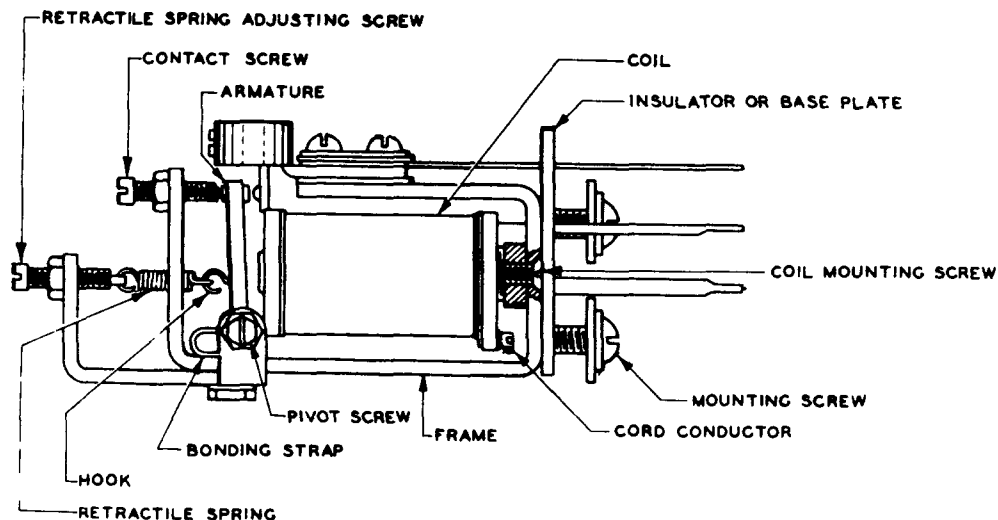

Fig. 3 - 207- and 213-type Relays
3. To add a new figure identifying the various parts referred to in Part 3 (Fig. 3).